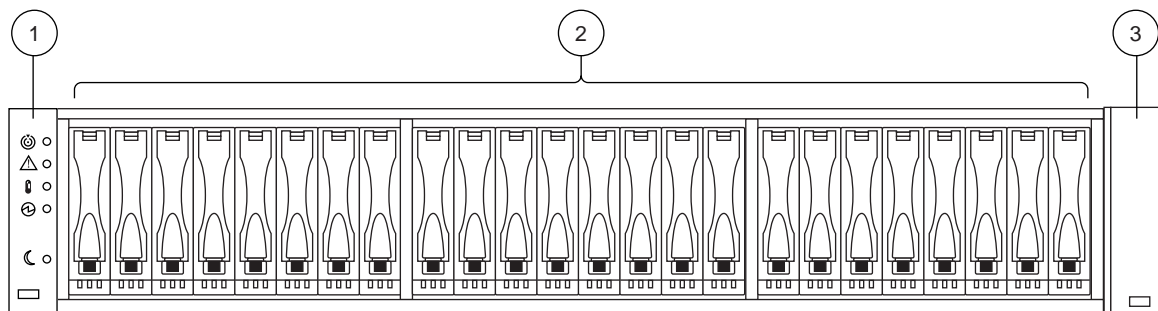
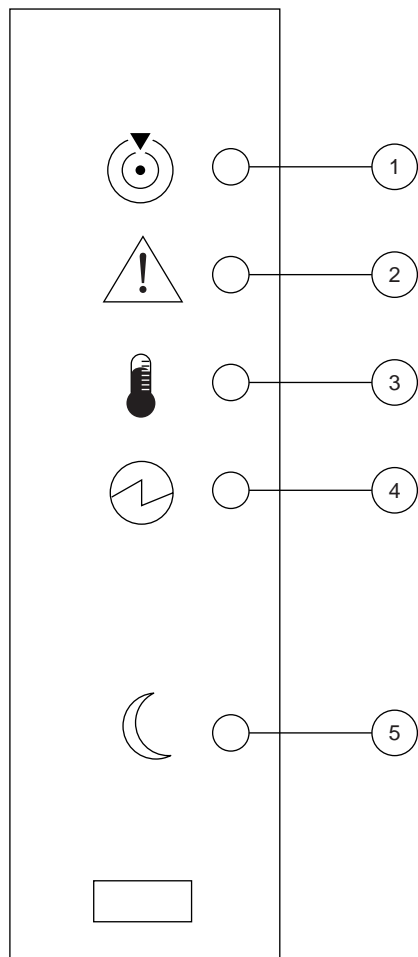

Figure 1-4 IS2224 JBOD Storage Enclosure Example (Front View)
Figure 1-5 IS2224 JBOD Enclosure Front Status Panel Example
The front-panel control LEDs (see callout (1) in Figure 1-4 and also Figure 1-5 on page 5) provide status and operational information for the JBOD enclosure. Note that during the power-up process these LEDs may flash intermittently until all sub-systems within the enclosure are fully powered on. Ensure that all storage enclosures in the system have powered on fully before bringing the system server online. The indicators have the following functions:
- (1) Storage enclosure identifier LED - this blue/white indicator is on for unit identification only
- (2) Amber service action required LED
- (3) Amber over temperature warning LED
- (4) Green “power good” LED lights when the enclosure is fully operational
- (5) Green “standby” power mode LED lights when power is available (but unit is not operational)
Retention of critical data is enabled by optional, fully redundant and hot-swappable Environmental Services Modules (ESMs). Each ESM features three 6Gb/s SAS ports, providing connectivity for two host devices and an expansion port to connect additional JBOD enclosures via SFF-8088 connections. LEDs on the power supplies, ESMs and each individual drive carrier allow all system components to be closely monitored to help system administrators ensure storage integrity. Figure 1-4 on page 4 shows an example rear view of the IS2224 JBOD enclosure.